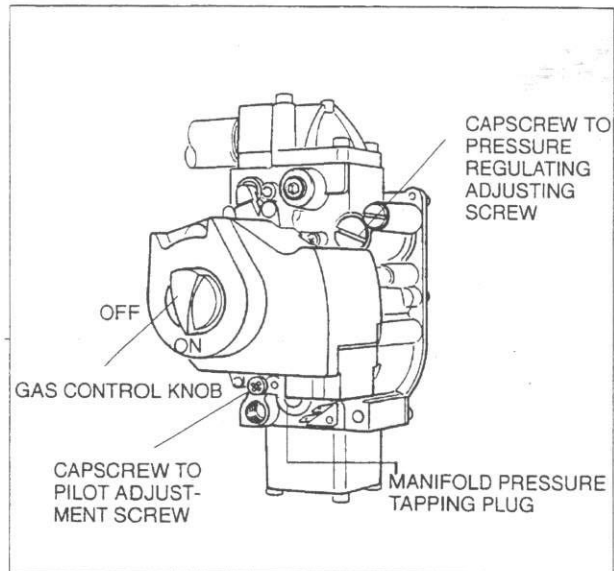
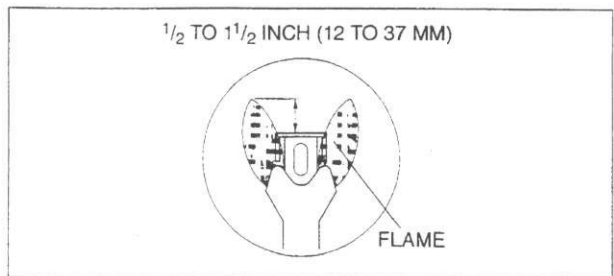

Fig.9
Fig.10
- 45 After adjustment, install the capscrew on the gas control, fig.9.
- 46 Observe the pilot flame through hole in the burner assembly plate. The flame should envelop the flame sensor $\frac{1}{2}$ – $1\frac{1}{2}$ inch, fig. 10. If the pilot flame is satisfactory then go to step 47. If the pilot flame is too small or too large, adjust the pilot using the pilot adjustment screw., fig. 9. Turn the inner adjustment screw clockwise  to decrease, or counterclockwise  to increase the pilot flame. After adjustment, replace the cover screw and tighten firmly.